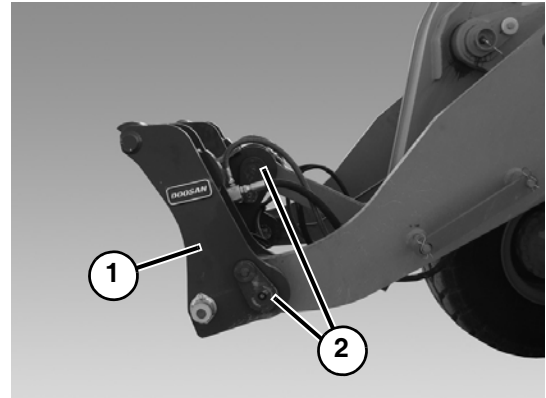

Figure 1
3. Check the hydraulic quick coupler frame (1, Figure 1) and hydraulic quick coupler mounting hardware (2, Figure 1) for broken welds, damaged or excessively worn parts. Repair or replace damaged parts if necessary.